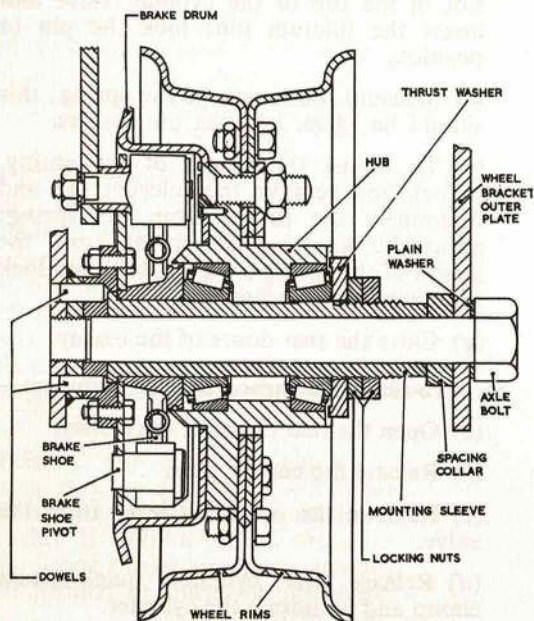

Fig. 17. WHEEL ASSEMBLY
59. To examine the main wheel bearings (Fig. 17), treat each wheel as follows:—